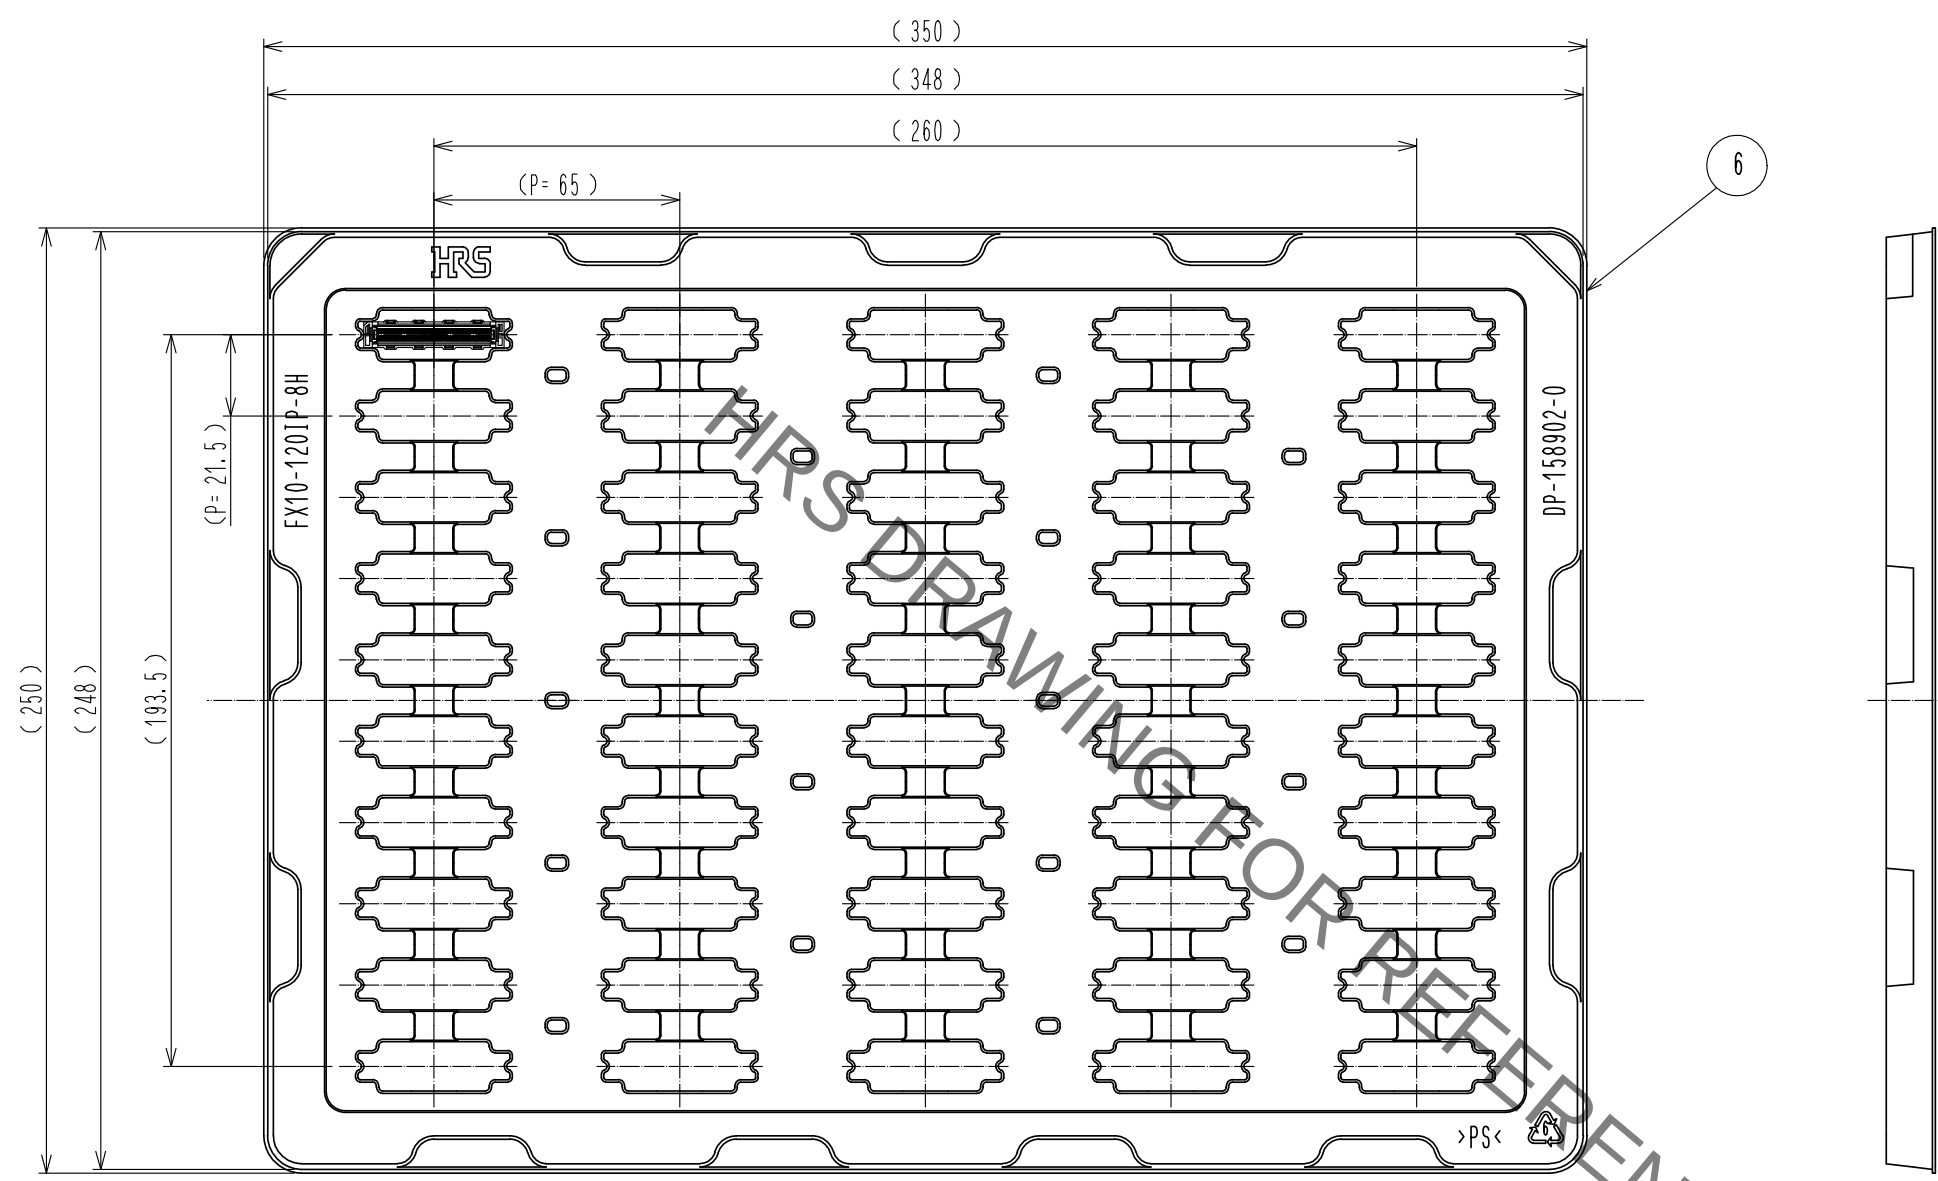

Fig.3 Drawing for packing (1:2) 6
- (1) The header connectors are decided by board distance (stacking height). Connector combination is shown in Table 1.
- (2) Fixed side (Black side) of interposer should be mated with header mounted on board α. Mating side (Gray side) should be mated with header mounted on board β.
- (3) Spacers are required to support the PWB's and protect the SMT solder joints. Recommended spacer height is shown in Table 1.
- (4) Pin configuration is shown in Table 2. This product consists of 36 Differential pairs, 8 Single-ended lines and 40 ground lines.
- (5) Lot No. shall be marked on the indicated position.
- (6) 50pcs of this product are packed in soft tray. See Fig.3 for details.